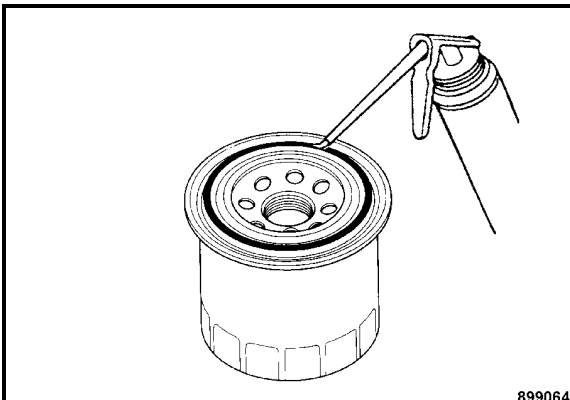

Fig. 133
- Slightly oil the rubber seal on the new filter cartridge (Fig. 133).